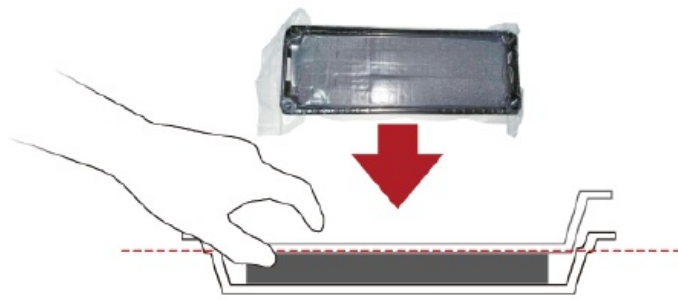

Fig 1
1. Add water to the seedling tray, up to the water (red) level. (Fig1)
1. After a cycle of planting, you should change water or clean the unit(Fig1 .)